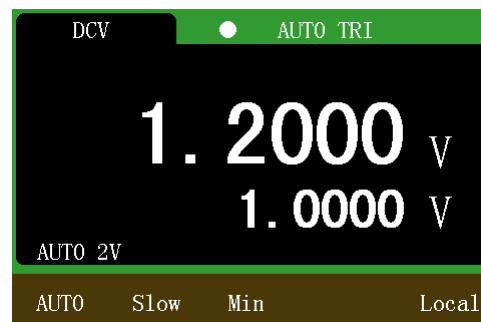

Figure 5-2 Minimum measurement interface
2. Press to record the minimum value of the measurement, as shown in Figure 5-2. Press again to exit the minimum measurement function.